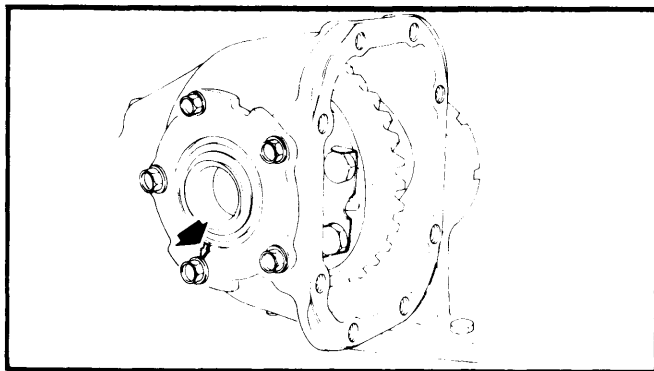

Fig. 13 Aligning Side Retainer During Installation
2) On R180 differentials, install differential case assembly in gear carrier in reverse order of disassembly. Fit correct shims and "O" ring seal in both side retainers in carrier. Arrow should point as shown in Fig. 13.